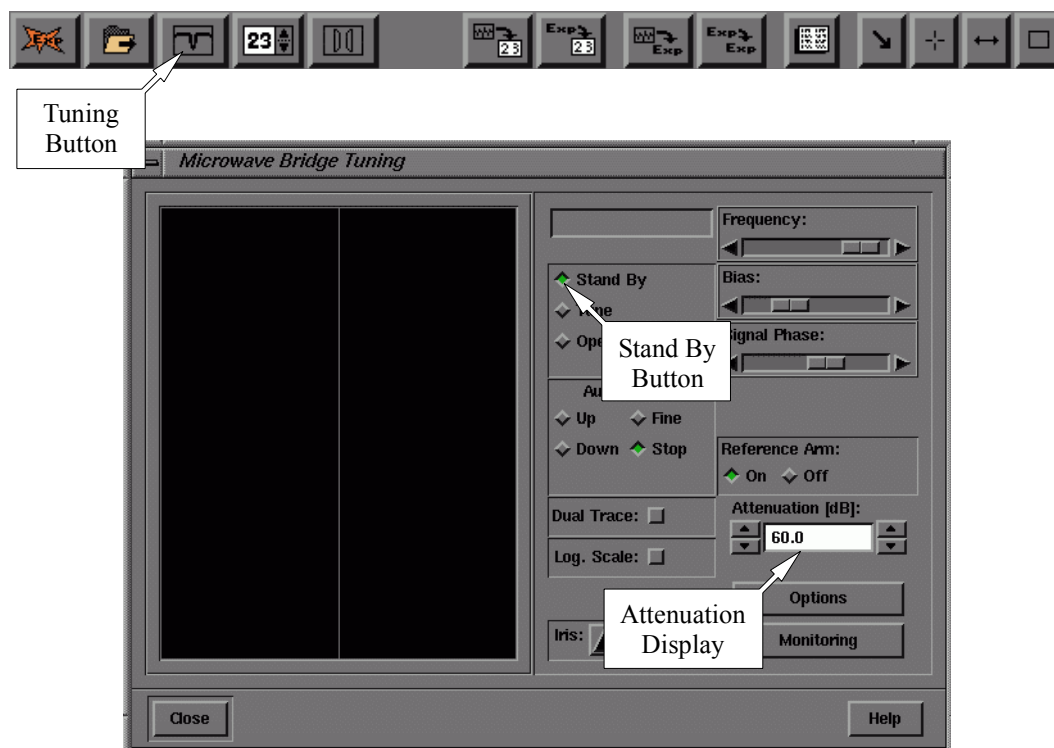

Figure 3-29 The Microwave Bridge Tuning dialog box.
1. **Open the Microwave Bridge Tuning dialog box.** If this window is not already open, click its button in the tool bar. The Microwave Bridge Tuning dialog box will then appear. (See Figure 3-29.)
2. **Switch the microwave bridge to Stand By.** Click the Stand By button in the dialog box to change to Stand By. (See Figure 3-29.) The microwave attenuator will be automatically set to 60 dB.